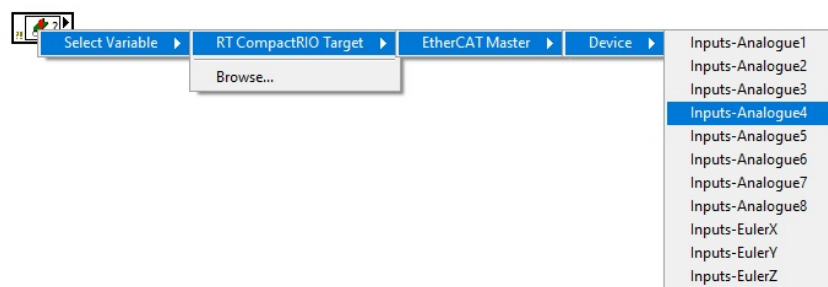

Figure 5: Choosing variable channel
3. Right click each shared variable and select variable for correct input (see figure 5)